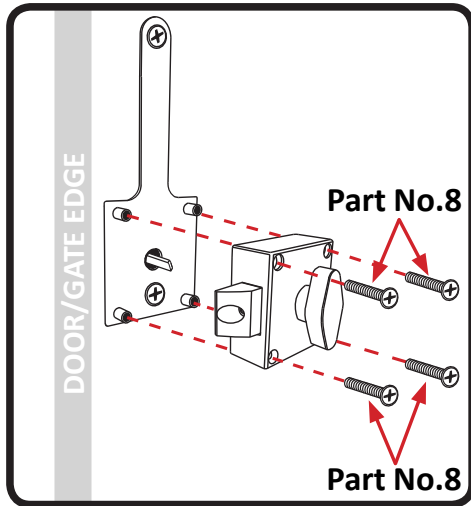

Fig.13
1. Remove the 4 screws (**Part No.8**) which hold the slam latch to the mounting bracket - as per **Fig.13** below.